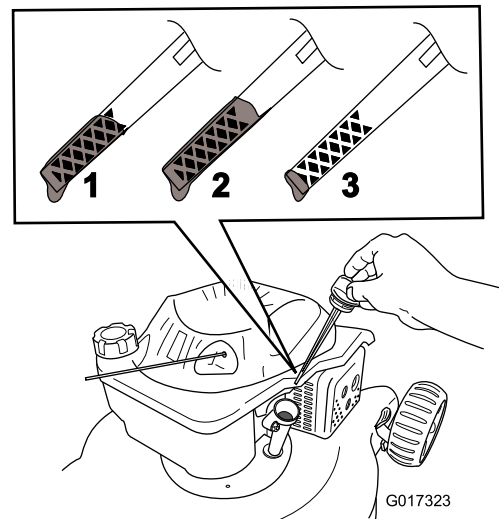

Figure 4
2. Remove the dipstick (Figure 4).
3. **Slowly** pour oil into the oil fill hole, wait a few minutes, and check the oil level on the dipstick by wiping the dipstick clean and then inserting, **but not screwing in**, the oil fill cap into the hole (Figure 4).
- Note:** Fill the engine crankcase with oil until the dipstick indicates that the engine oil level is correct as shown in Figure 4. If you overfill the engine with oil, remove the excess oil as directed in Changing the Engine Oil.